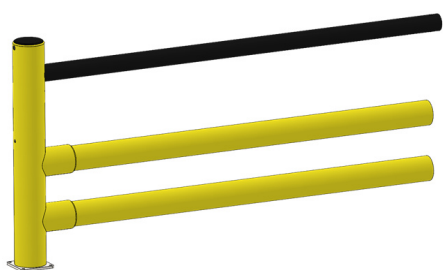
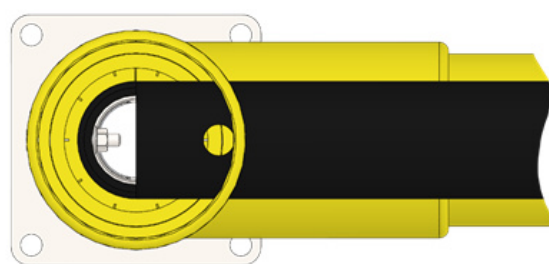

Figure 4. Installation of section elements into the finite post
Figure 5. The proper arrangement of the end of the upper section element inside the finite post (top view)
1. Insert the yellow and black section elements into the finite post (Fig. 4). The axes of the through circular 20 mm holes in the black pipe of the upper section element both here and later on must be placed vertically. The installation of the upper section element into the post must be carried out so that the circles of through 20 mm holes in the black pipe of the section are located tangentially to the inner surface of the pipe of the post (shown in Fig. 5). Attention must be paid to the fact that in the black pipe of the section from the side of the end that should enter inside the finite post, the distance from the end to the 20 mm diameter mounting hole is greater than from the side that enters inside the connecting post.